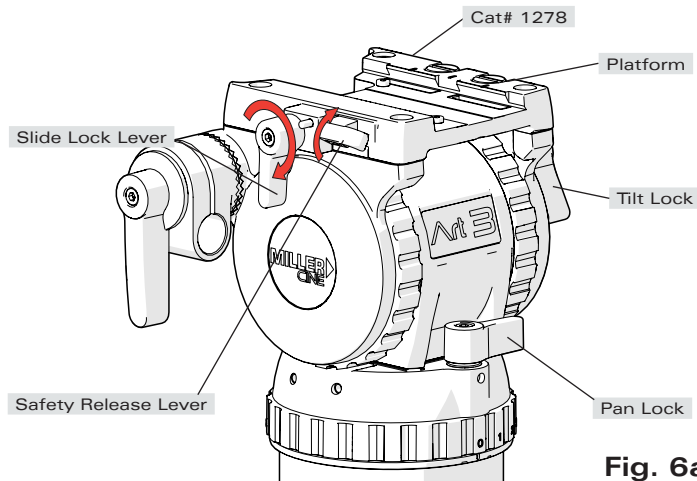

Fig. 6a
2.1 Remove the CAMERA PLATE by lifting the SAFETY RELEASE LEVER on the PLATFORM (SLIDE LOCK LEVER must be unwound (clockwise)) (Fig. 6a).